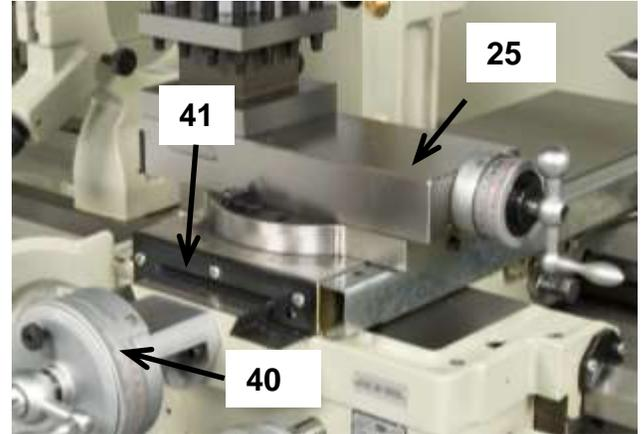

figure 42
The cross slide (41) shown in (fig. 42) can also be operated either manually or under power.